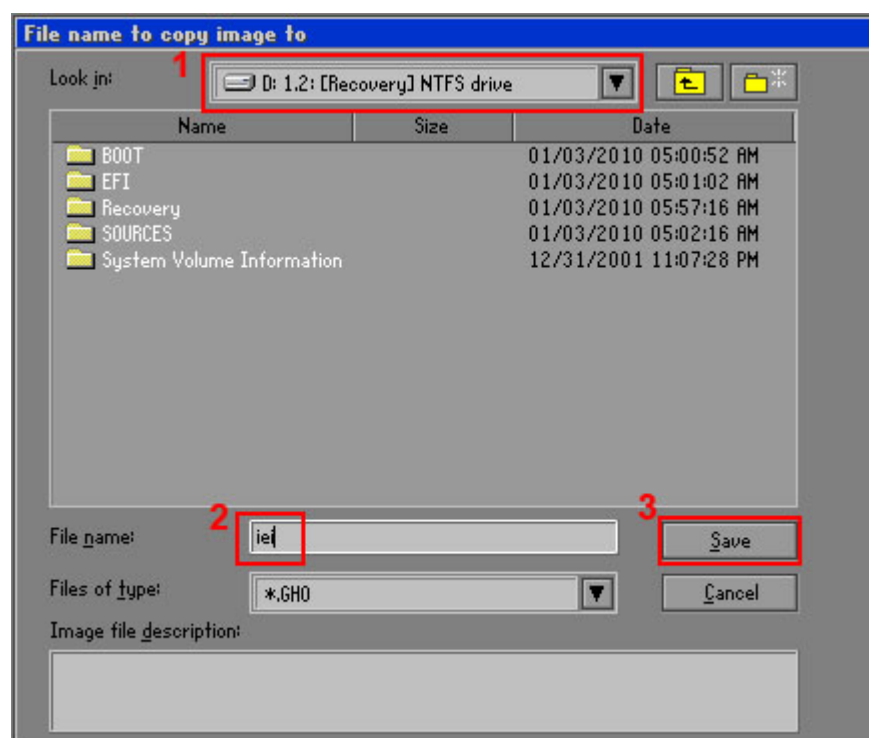

Figure B-13: File Name to Copy Image to
Step 7: Select **1.2: [Recovery] NTFS drive** and enter a file name called **iei** (**Figure B-13**). Click **Save**. The factory default image will then be saved in the selected recovery drive and named **IEI.GHO**.